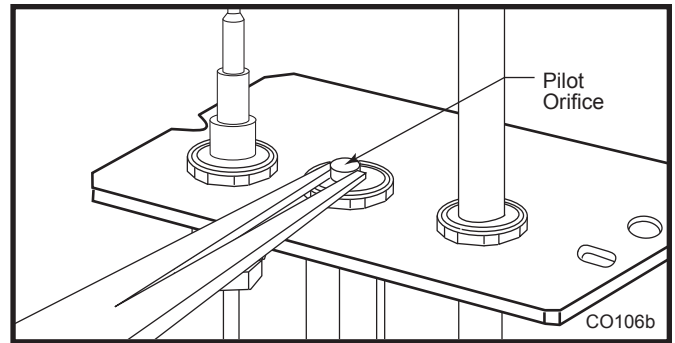

Fig. 57 Remove pilot orifice.
- Remove pilot orifice with needlenose pliers. (Fig. 57) **NOTE:** Use a wrench to hold pilot tube in place while removing the orifice.